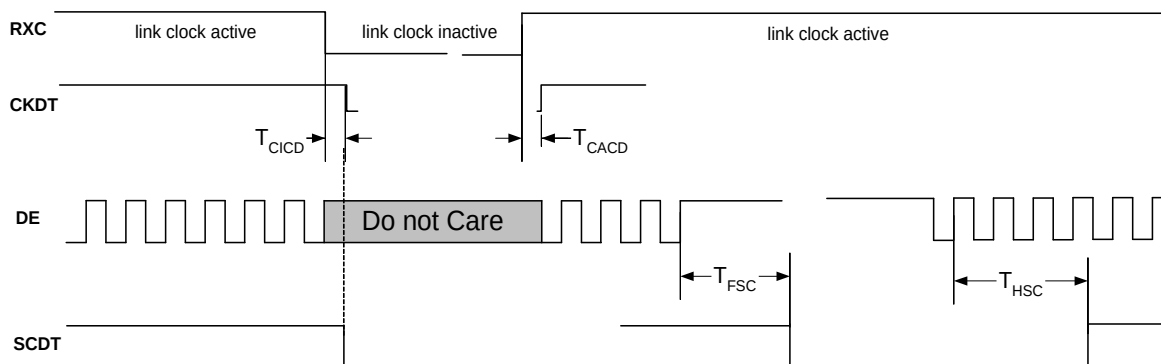

Figure 5.3. SCDT and CKDT Timing from DE or RXC Inactive/Active
1. The SCDT shown in Figure 5.3 is a register bit. SCDT remains HIGH if DE is stuck in LOW while RXC remains active, but SCDT changes to LOW if DE is stuck HIGH while RXC remains active.
2. The CKDT shown in Figure 5.3 is a register bit. CKDT changes to LOW whenever RXC stops, and changes to HIGH when RXC starts. SCDT changes to LOW when CKDT changes to LOW.